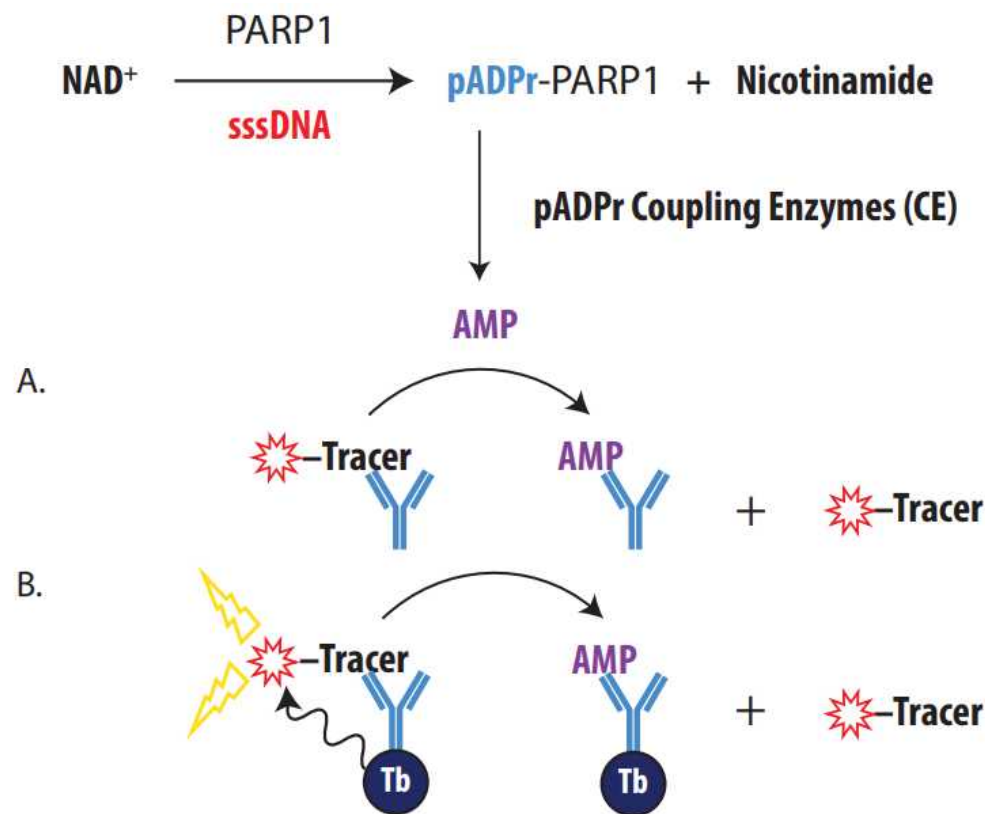

Figure 1. Schematic Overview of the Enzolution PARP1 Assay System with the Transcreener pADPr PARP Assays.
The Enzolution™ PARP1 Assay System is intended for use with the Transcreener® pADPr PARP Assay Kits (Parts #3043 and #3044) to measure the enzymatic activity of PARP1 (poly(ADP-ribose) polymerase 1). PARP1 forms poly(ADP-ribose) (pADPr) chains on target proteins, including itself, using NAD⁺ as a donor substrate (**Figure 1**). The Transcreener pADPr PARP Assay Kits use pADPr Coupling Enzymes (CE) to convert pADPr formed by PARP1 to AMP, which is then detected using far-red, competitive fluorescence assays that enable single addition, mix-and-read detection in continuous or endpoint formats. The assay has been optimized and extensively validated for high throughput screening (HTS) and inhibitor dose response measurements using most multimode plate readers.
- 1 The Enzolution™ PARP1 Assay System is intended for use with the Transcreener® pADPr PARP Assay Kits (Parts #3043 and #3044) to measure the enzymatic activity of PARP1 (poly(ADP-ribose) polymerase 1). PARP1 forms poly(ADP-ribose) (pADPr) chains on target proteins, including itself, using NAD^+ as a donor substrate (**Figure 1**). The Transcreener pADPr PARP Assay Kits use pADPr Coupling Enzymes (CE) to convert pADPr formed by PARP1 to AMP, which is then detected using far-red, competitive fluorescence assays that enable single addition, mix-and-read detection in continuous or endpoint formats. The assay has been optimized and extensively validated for high throughput screening (HTS) and inhibitor dose response measurements using most multimode plate readers.